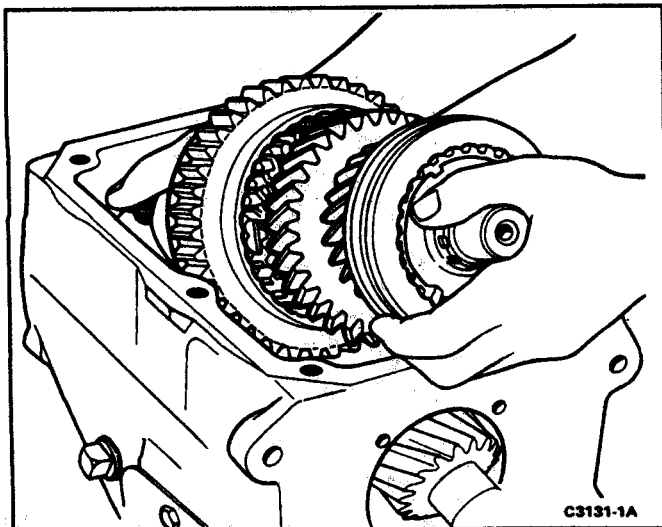

FIG. 8 Removing Output Shaft Assembly
10. Remove the output shaft assembly from the case (Fig. 8).